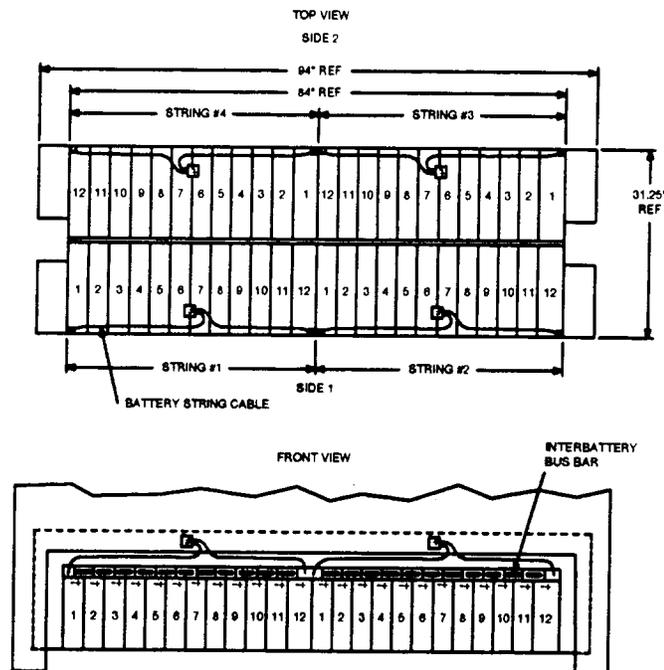

Figure 1 — Layout of Lineage 2000 VR Series Batteries in 80E Cabinet
8. Place all 12 batteries in the battery compartment as shown in Figure 1.